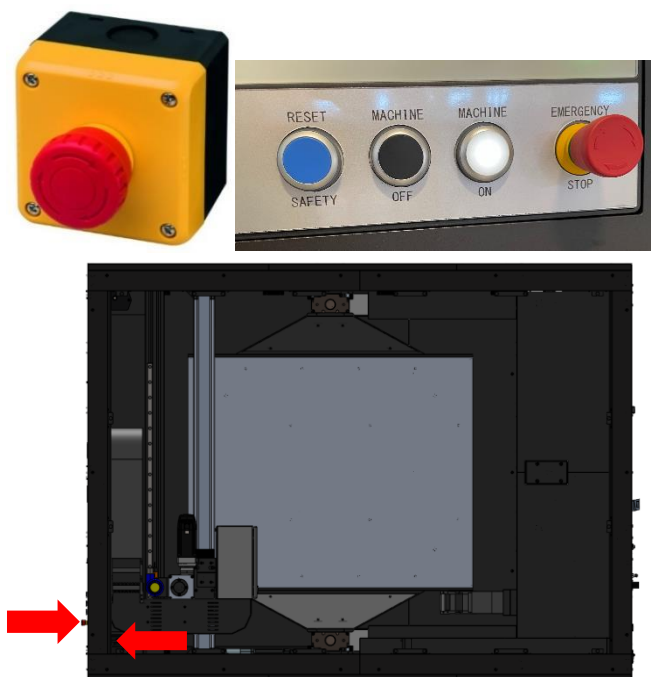

Figure 9 (Emergency stop placement)
- The machine is equipped with 2 emergency stops, according to fig 9: